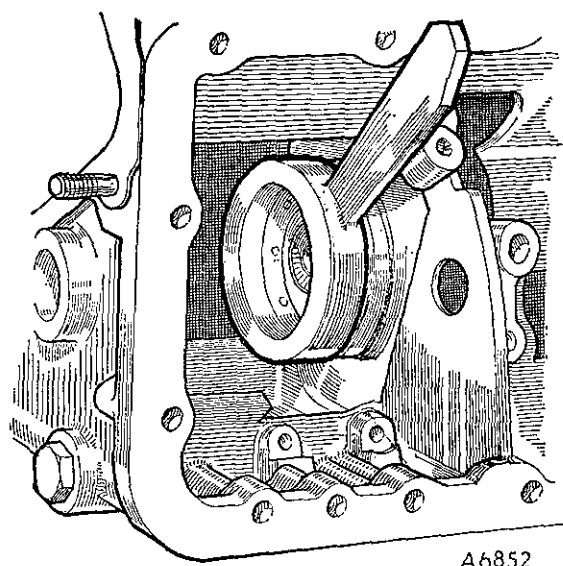
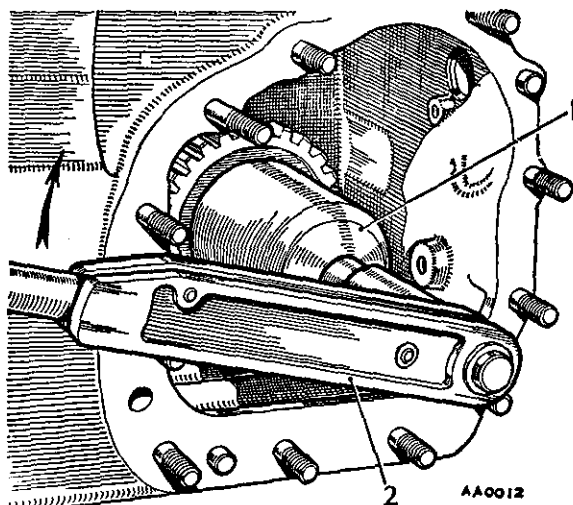

Fig. Fa.17
Fig. Fa.18
- (24) Use Service tool 18G 1095 to hold the top and reverse clutch splines (see Fig. Fa.17) and tighten the forward clutch hub nut with Service tool 18G 1096 and 18G 592 (see Fig. Fa.18), to the torque figure given in 'GENERAL DATA'.
- (25) Check that there is light friction on the bearings when rotating the hub, i.e. the bearings should have a preload of .002 in. (.05 mm.).